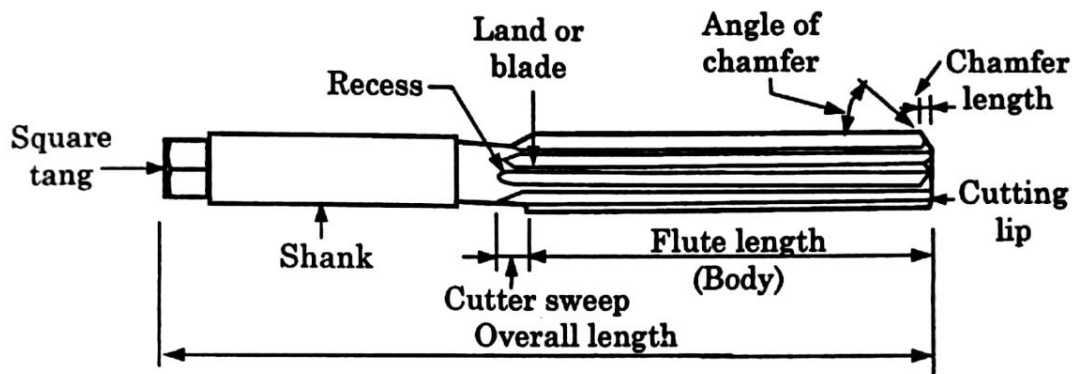

Fig. 2.37 : Reamer
The size of the reamer is specified by the diameter measured across two margins at the cutting edge on a diametral line. Reamers may be made from high carbon steel, H.S.S., cast alloys and cemented carbide. All common forms of reamers consist of the shank, body and angle of chamfer as shown in fig. 2.37.
1. **Hand Reamers** : Hand reamers are fluted reamers. They have a slight taper on the cutting end to facilitate entering a hole properly. They have parallel shank and square tang as shown in fig. 2.37. The tang is used to hold the reamer. Hand reamers may be solid or expandable. The teeth have clearance along their edges and thus may cut along their entire length. It should be noted that these reamers are not to be used for machine reaming in any case. In case of hand reaming, the material to be removed should not be more than 0.125 mm.